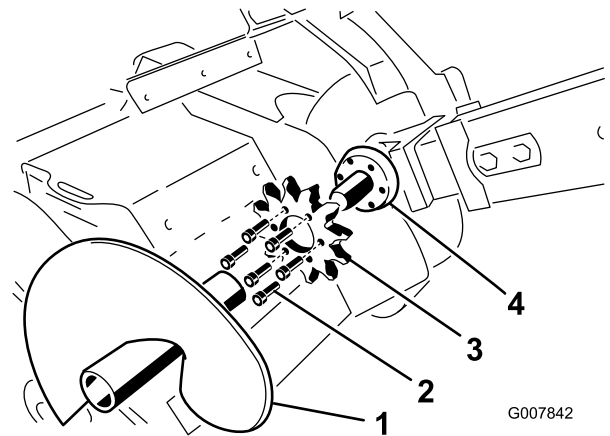

Figure 69
4. Remove the spoils auger (Figure 69).
9. Remove the 6 bolts securing the drive sprocket (Figure 69).
10. Remove and discard the drive sprocket (Figure 69).
11. Clean the sprocket mounting surface on the trencher (Figure 69).
- Slide the new sprocket onto the shaft (Figure 69).
- Thread the 6 bolts into the sprocket finger tight (Figure 69).